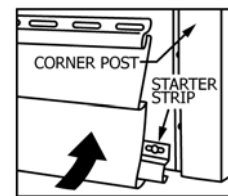

FIG. 12 Fastening of Initial Siding Panel
9.3.2 Engage the bottom of the first panel and the starter strip. If backerboard insulation is used, drop it in behind the panel now. Make sure the panel is locked, but not pulled tight, and fasten leaving $\frac{1}{4}$ to $\frac{3}{8}$ in. (6.4 to 9.5 mm) gap at the corner posts, in accordance with 6.2. (See Fig. 12.) Space fasteners not over 16 in. (406 mm) on center. Greater spacing is permitted in accordance with the siding manufacturer's instructions, where substantiated by windload testing conducted in accordance with Specification D3679.